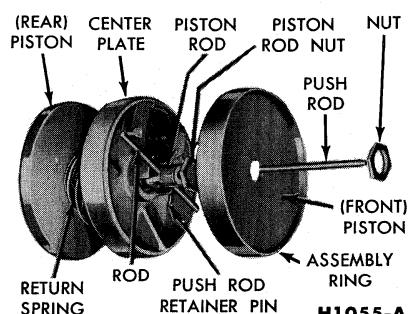

FIG. 41—Push Rod, Pistons and Center Plate
spring in the compressed position (Fig. 41).
13. Place the return spring over the piston rod with the small end of the spring at the bottom (Fig. 41).